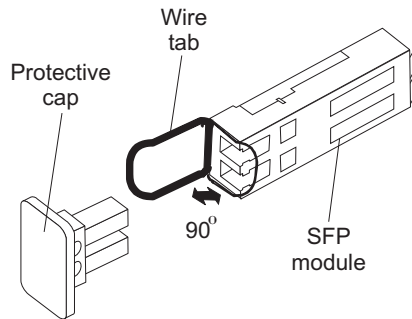

Figure 18. Unlocking the SFP module latch - wire variety
- For SFP modules that contain wire tabs, unlock the SFP module latch by pulling the wire latch outward 90°, as shown in Figure 18 on page 44.